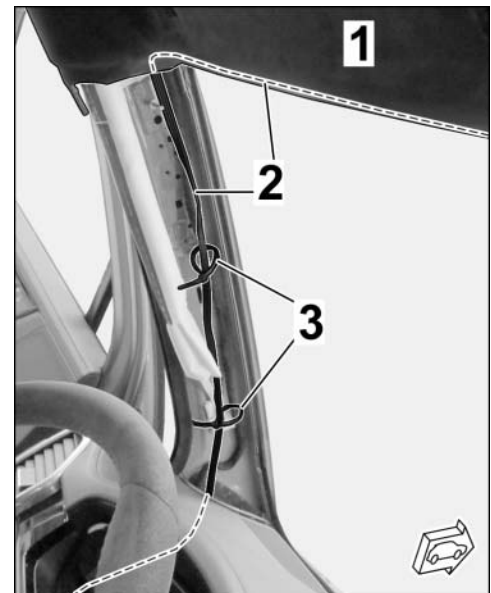

Figure 14
- Roof console → under headliner along windscreen frame → left A-pillar (top, if required in the cable duct) → along A-pillar → (⇒ Figure 14) → fuse carrier in footwell (left) → BK 0.5² line → ground pin 13 (MB13)